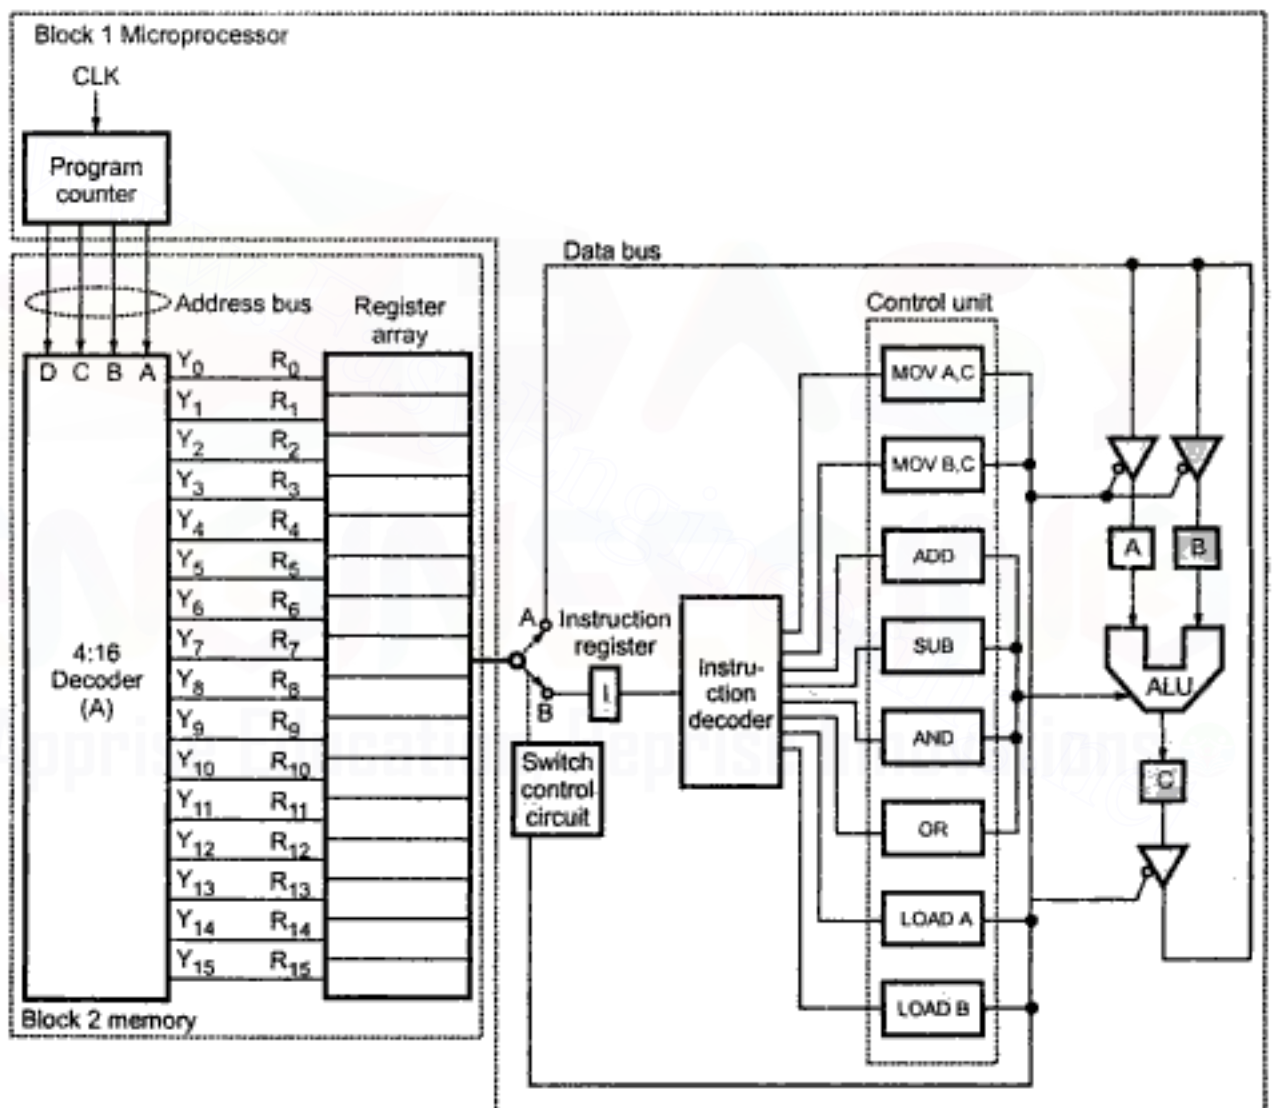

Fig. 1.11
Fig. 1.11 shows the small model with specific labels and special blocks. Block 1 represents a microprocessor whereas block 2 represents memory.
**Address and Address Bus :** The output of the program counter is given to the memory. The internal decoder (decoder A) in the memory, decodes this output of the program counter to locate a specific register in the memory. This means that output of the program counter addresses a specific register in the memory. Thus the output of program counter is called address and the group of wires that carries this address is called address bus. Address bus shown in Fig. 1.11 is 4-bit wide. So it can address 16 ( $2^4$ ) registers in the register array. The number of address lines decide the how many registers from the register array (memory locations) can be accessed. For example if there are 16 address lines then it is possible to access  $2^{16}$  (65536) memory locations.
**Data and Data Bus :** The data within the registers is used in different forms such as opcodes and operands. This data is moved from register to register, from memory to register through group of wires called data bus. The data bus within the microprocessor is called internal data bus whereas data bus outside the microprocessor is called external data bus. Data bus shown in the Fig. 1.11 is 3-bit wide. The size of the data bus decides